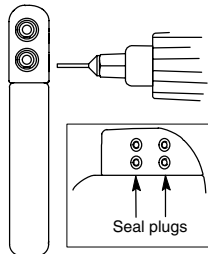

Figure 2-1. Tightening the set-screws.
1. Insert the torque wrench into the center, preslit depression of the seal plug (Figure 2-1) located near the tip of the fully inserted lead connector pin.